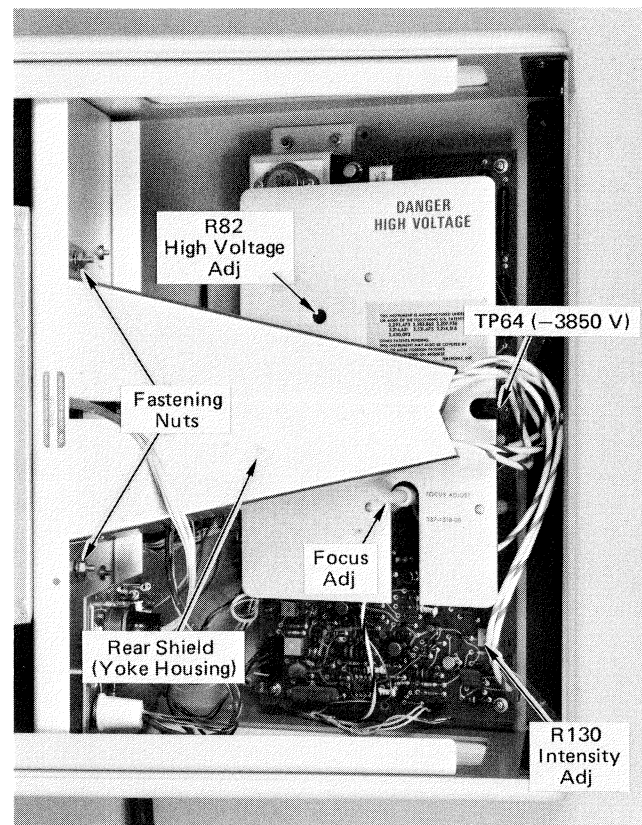

Fig. 4-6. High Voltage Adjustments and Test Points.
a. With the Terminal off, set the voltmeter to read -3850 V DC and connect it to TP64 on the High Voltage and Z Axis board in the back of the display Unit. See Fig. 4-6.
c. After about one minute, check for -3850 V at TP64. Adjust R82 (Fig. 4-6) as necessary to obtain that value.
(3) If necessary, rotate the yoke housing or yoke-mounting bracket (depending on type of assembly to obtain approximate parallelism between the ends of the horizontal line and the top edge of the display area. Two nuts hold the yoke housing in place behind the center divider in the display unit (Fig. 4-6). Final adjustment and tightening of the yoke housing is done in a later step.
(4) Adjust X GEOM for approximate straightness of the vertical line; vertical line to be positioned as close to the left edge of the display area as possible by using the horizontal thumbwheel.
(5) Adjust Y GEOM for approximate straightness of horizontal line, with vertical thumbwheel at its upper limit.
(6) Adjust X GAIN for 18.75 cm (7.4 inches) horizontal line length.
(7) Readjust X POS for horizontal line centering as necessary.
(8) Press PAGE and then enter four Zs. The Zs should store. If storing doesn't occur, increase the OP LEVEL setting while entering Zs until they store. Then press PAGE and again enter four Zs.